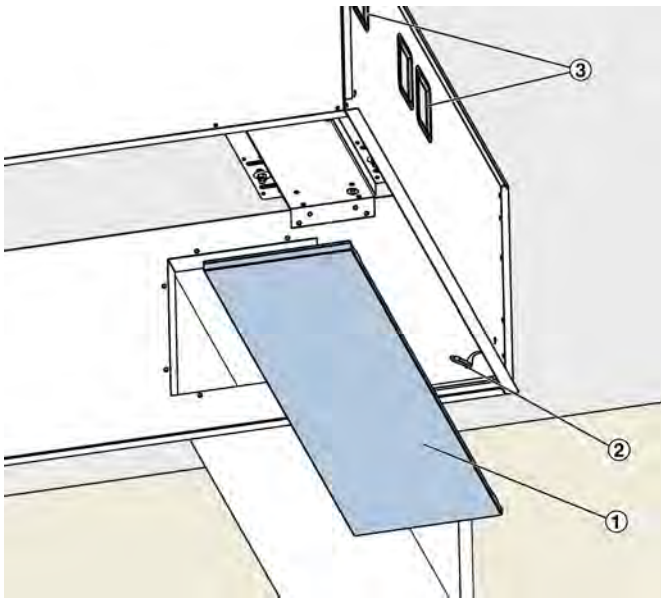

Fig. 35: Inserting the side panels
9. ▶ Hook the side panels (Fig. 35 /1) onto the safety cable (Fig. 35 /2) and insert them.
For an easier installation of the ventilation unit (if necessary, also at a different point in time as the door frame installation), we recommend preparing the connections for water, electricity and communication and inserting them into the openings provided for this purpose on the door frame (Fig. 35 /3).